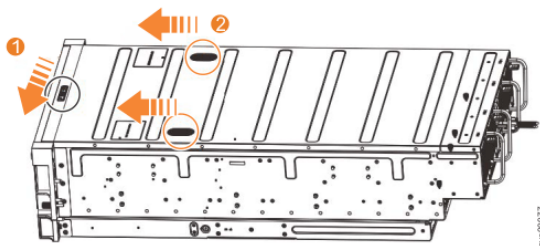

Figure 122. Releasing the 5U expansion enclosure cover
2. Slide the release latch (**1**) in the direction that is shown in Figure 122 on page 175.
3. Slide the cover toward the front of the expansion enclosure (2), as shown in Figure 122 on page 175.